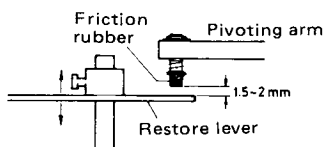

Fig. 2-2.
**Note:** After the restore lever has been moved, readjust clearance between the pivoting arm friction rubber and the restore lever. Clearance should be 1.5-2 mm when the pivoting arm is in the lead-out position (Fig. 2-2).